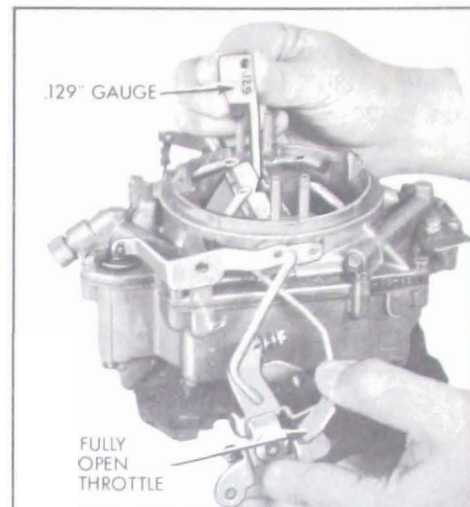

Figure 3-73—Checking Choke Unloader Adjustment
3. **Choke Unloader Adjustment.** Fully open throttle so that throttle arm contacts unloader tang on fast idle cam, then check clearance between choke valve and air horn dividing wall using .129" gauge (No. 30 drill). See Figure 3-73.